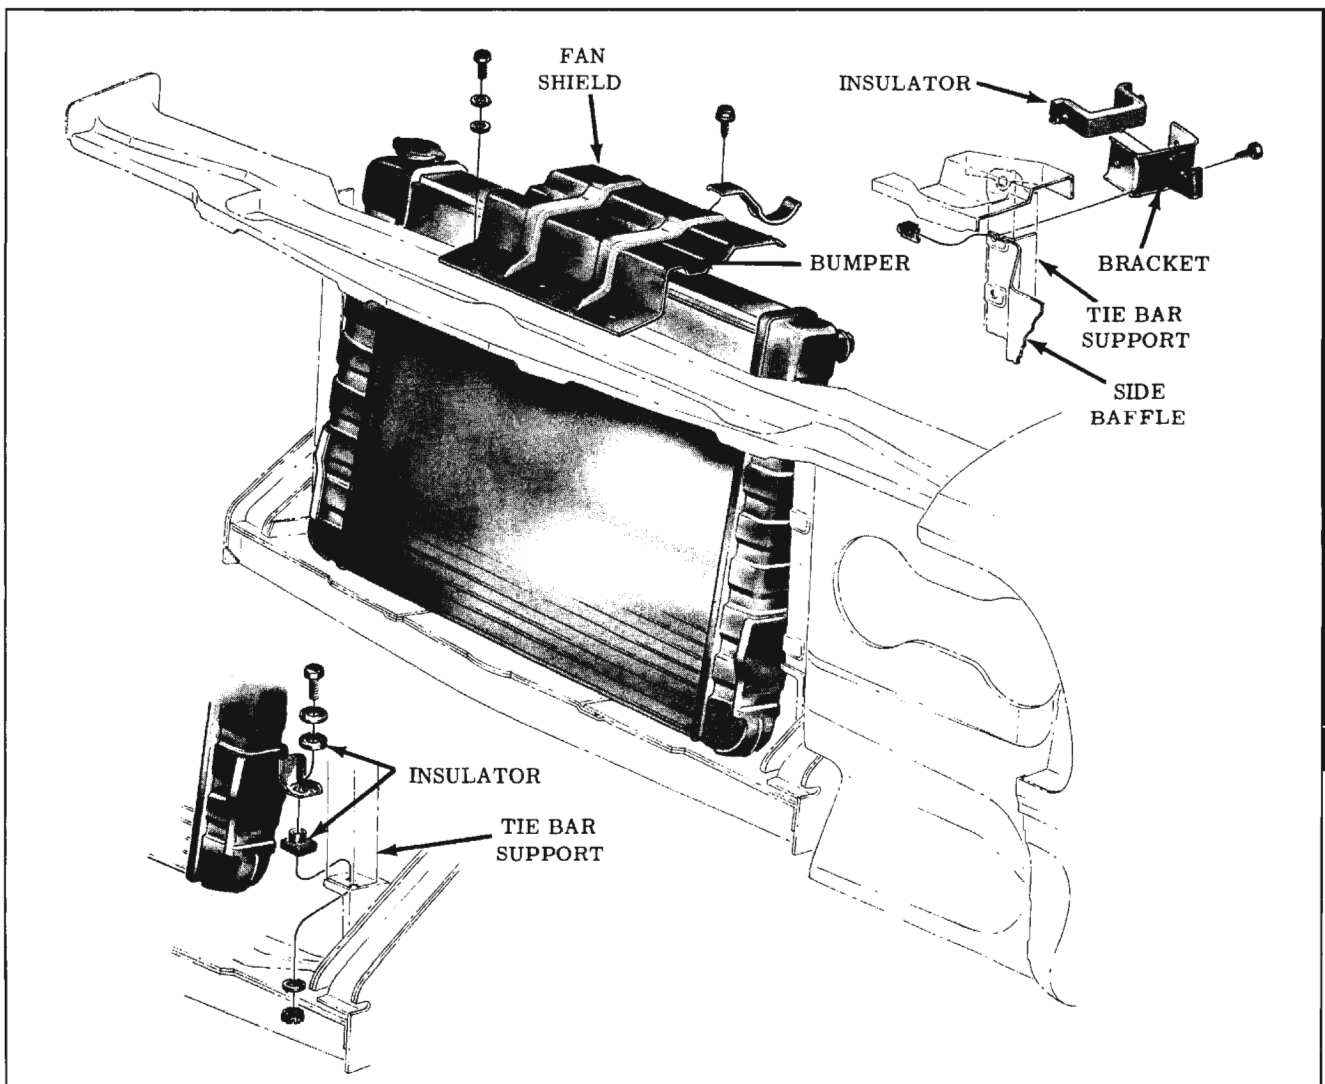

Fig. 15-132 Radiator Attachment
3. Remove radiator support to tie-bar support screws at each side of radiator. (Fig. 15-132)
4. Remove attaching parts at radiator lower mounting bracket. (Fig. 15-132)
3. Position radiator to tie-bars and secure with attaching parts as shown in Fig. 15-132.